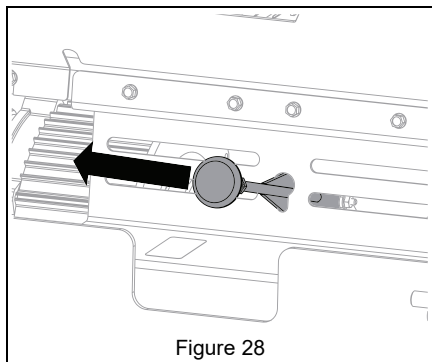

Figure 28
5. Release bypass handle from notch and pull into operating position. See Figure 28.